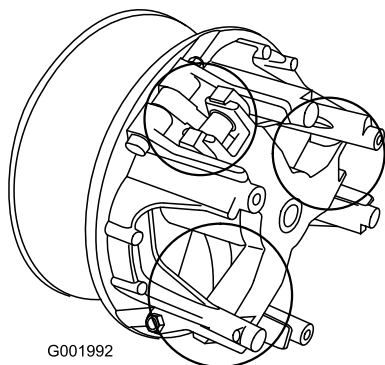

Figure 59
5. Lubricate the moving parts in the areas circled in Figure 59 using Toro Dry Lubricant Spray, available through your Authorized Toro Dealer or Distributor.